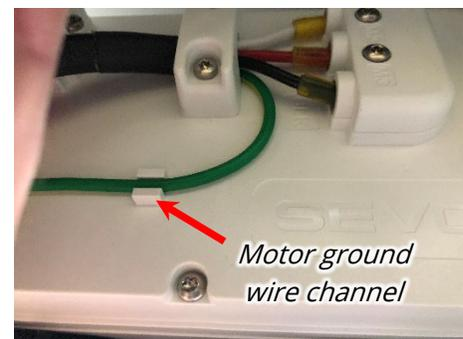

Figure 44: DC MDB ground routing
- viii. **INSERT** ground lead wire into channels provided on MDB exterior. (fig. 44)